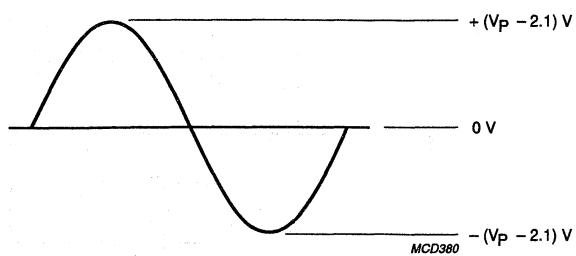

Fig.4 Typical output voltage swing over R_L .
- The output voltage swing is typically limited to $2 \times (V_p - 2.1 \text{ V})$ (see Fig.4)